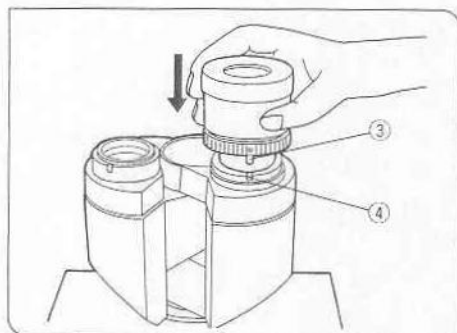

Fig. 11
When using a finder eyepiece or an eyepiece with diopter adjustment, inset it into the right-hand eyepiece sleeve. When doing so, make sure that the eyepiece positioning pin (3) fits into the notch (4) at the bottom of the eyepiece sleeve. (Fig. 11)